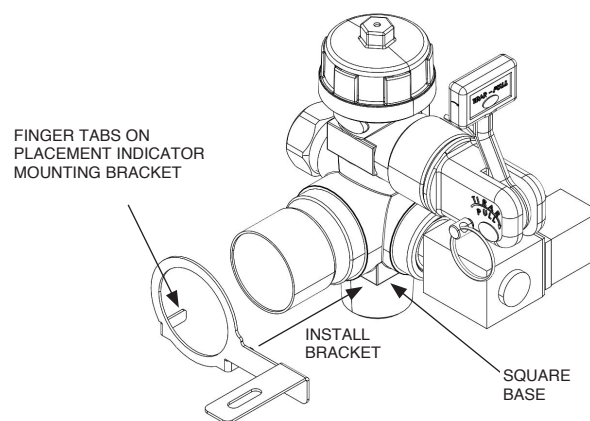
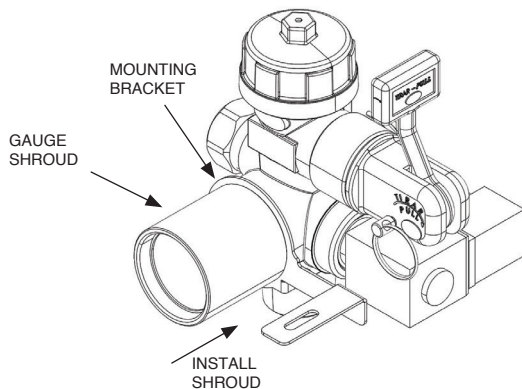
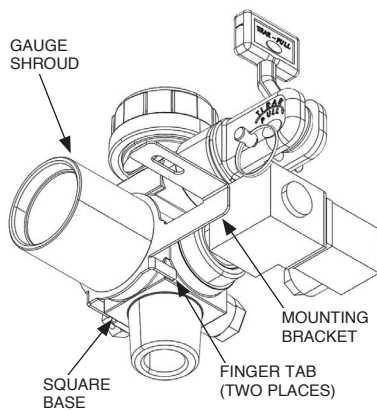

FIGURE 6-34
FIGURE 6-35
FIGURE 6-36
2. Install the placement indicator mounting bracket. See Figure 6-34 and Figure 6-35.
Note: Ensure the finger tabs are positioned on each side of the square base on the underside of the valve and are correctly aligned. Finger tabs should fit snugly over the valve assembly. See Figure 6-34 for finger tab location.
See Figure 6-35 and Figure 6-36.
Note: Ensure the finger tabs are positioned toward the bottom of the valve and correctly aligned. See Figure 6-36.